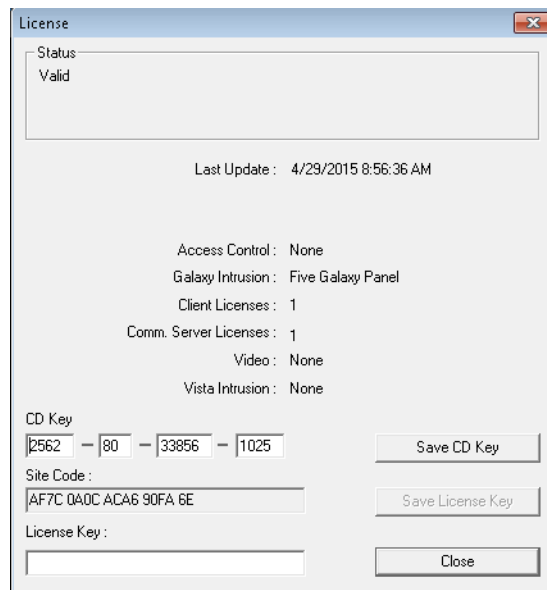

Figure 2-26 License
1. Click **Help > License**. *Figure 2-26* appears.